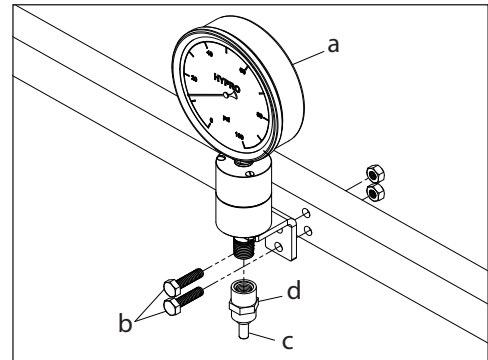

Figure 5: Mounting the pressure gauge
3. The recommended method of mounting is to mount the gauge (a) on the equipment using 1/4" bolts (b) (sold separately) as shown (Figure 5).
4. With the gauge mounted, you need to connect the 1/4" poly tubing (c) to the adapter on the applicator by inserting the tube into the adapter's inlet until it is firmly attached. Proceed to route the tubing to the adapter (d) on the gauge mount and connect it (Figure 5).